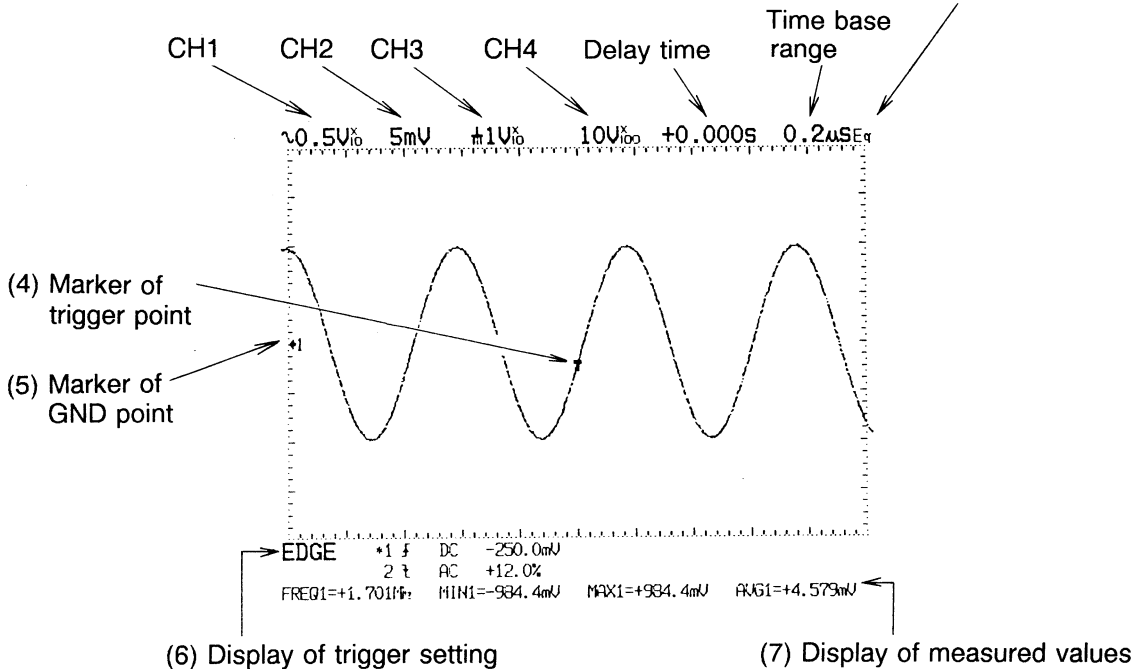

Fig. 5-1 Typical display of set values
When selecting the functions of cursor measurement and the pulse parameter measurement with keys in the MEASURE section of the operation panel, the measured values are displayed at the position of Fig. 5-1 (7).